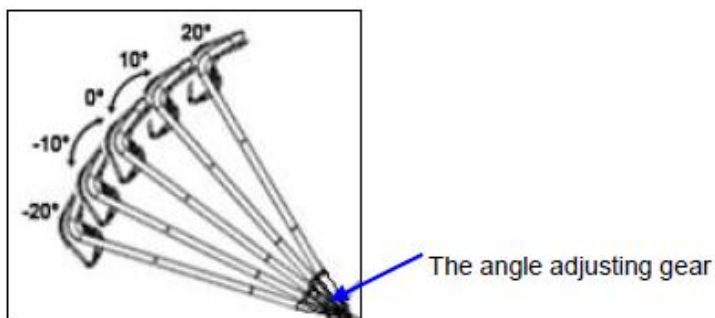

Fig. 3
- B). Rotating the upper handle centered of the angle adjusting gear for adjusted a appropriate angle into the scope -20° to 20° as the Fig. 3 shown;